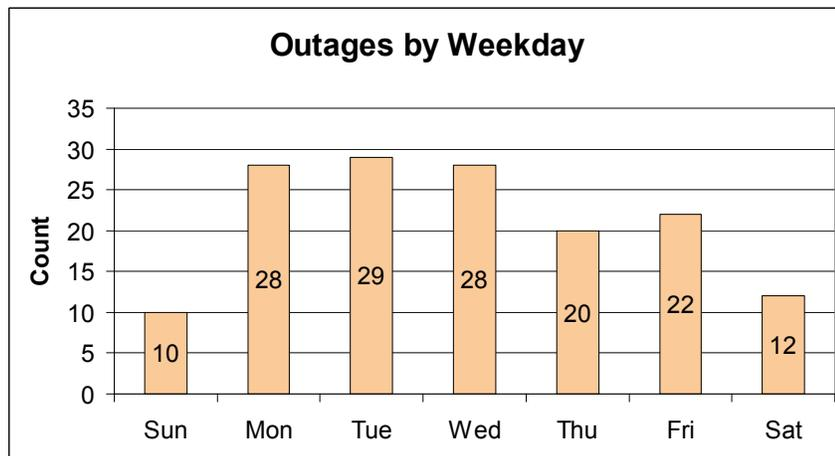
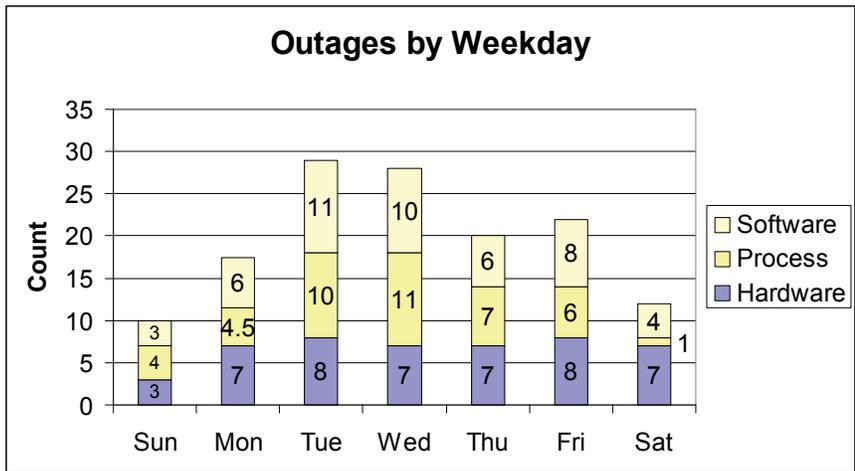

Figure 4
Figure 5
Figure 4 shows a chart of outages by day of the week for one year. Further analysis may reveal that hardware 'knows' it is Sunday (Figure 5) and does not fail as often as the other six days. The explanation may lie with human activity. Upgrades and hardware maintenance may be less frequent on Sundays than other days of the week. As you recall, each outage can have multiple root causes. Therefore an outage due to a human error (process not followed) that is complicated by a hardware failure would show as both a hardware issue and a process issue in this chart. Since more process failures happen during the other six days when there is more human activity, the chances of a hardware failure are reduced on Sundays when there is less human activity. Compare four (4) process issues on Sundays with eleven (11) on Wednesdays.